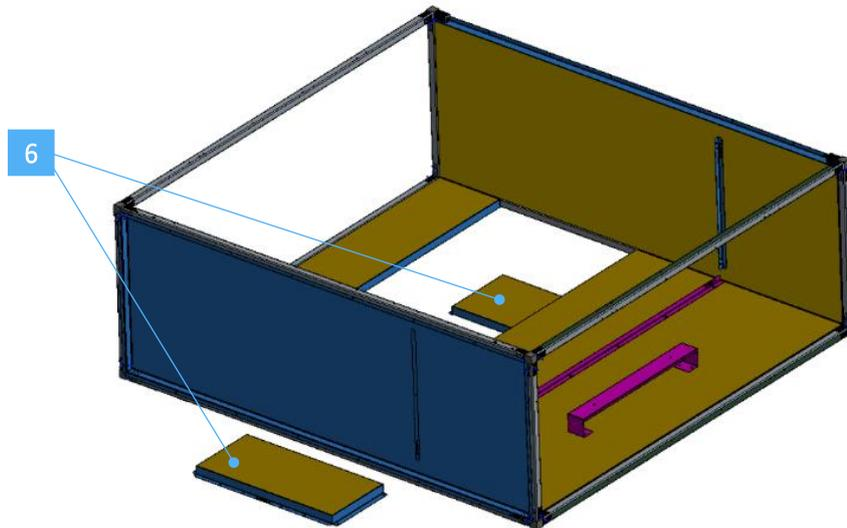

Fig. 6 *Bottom lateral panels assembly.*
- 3 Insert the two bottom side panels [6] (PN 73-00054-01) inside the tubes and fix them using the M4 self-tapping screws and M5 screws supplied, as shown in figure 6.